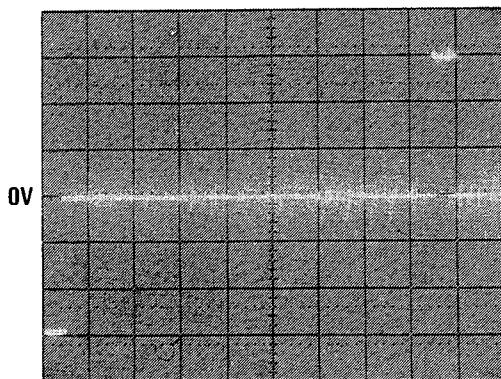

Figure 4-44
24. Using the Pulse Generator Pulse Delay Control, set the delay between the negative and positive-going pulses to 4.5ms as shown in Figure 4-44 and check that counts register on the 3776 Phase display.